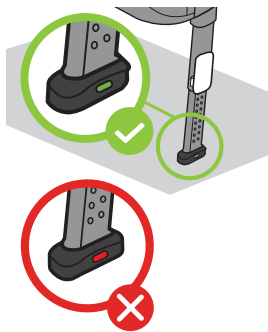

Figure 66
- Confirm that Load Leg Pressure Indicator has turned from red to green, as shown in **Figure 66**. If Indicator remains red after the Load Leg has been locked into position, extend Load Leg one position further to increase the contact between the vehicle floor and the Load Leg.